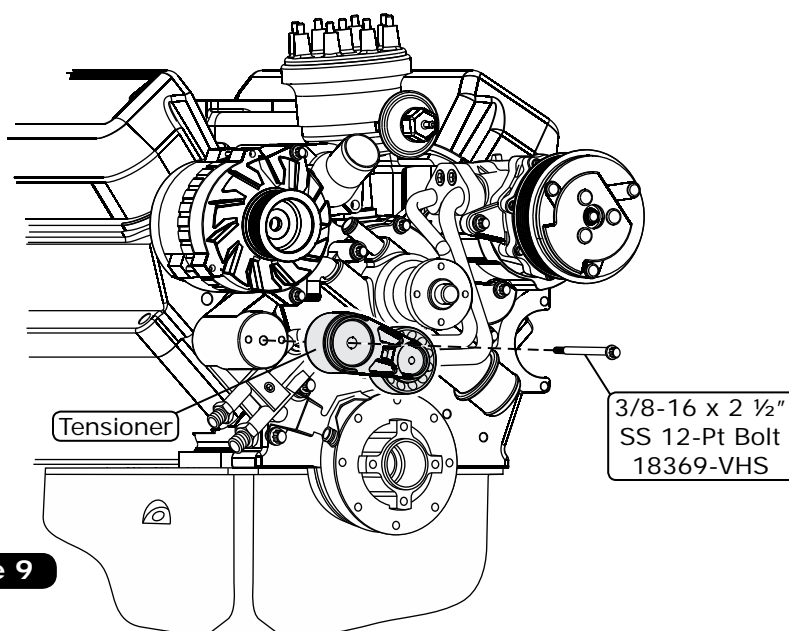

Figure 9
3. Install the tensioner using a 3/8-16 x 2 1/2" SS 12-Pt bolt as shown in Figure 9, below. Torque to 21 ± 2 lb ft.